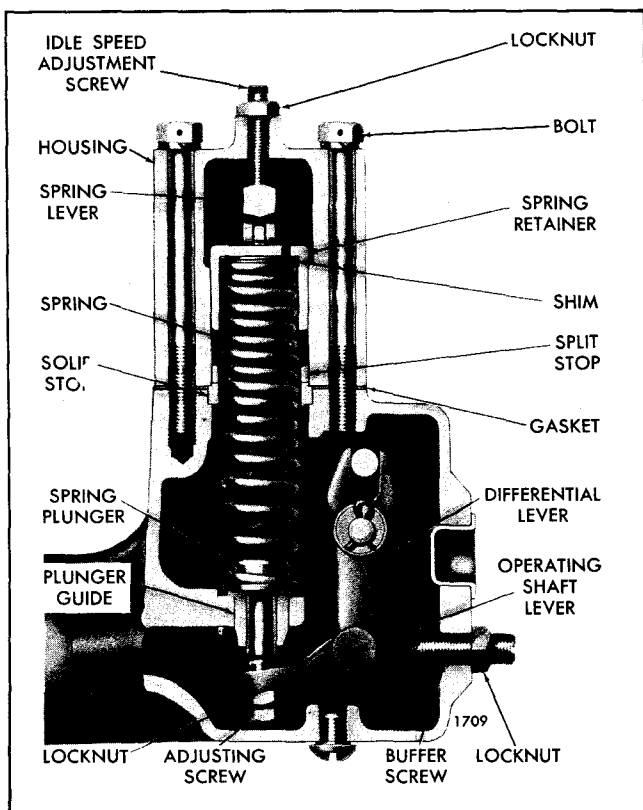

Fig. 6 - Location of Stops and Shims
3. Refer to Table 1 and Fig. 6 and determine the stops or shims required for the desired full-load speed for engines with two valve cylinder heads. *A split stop can only be used with a solid stop.*